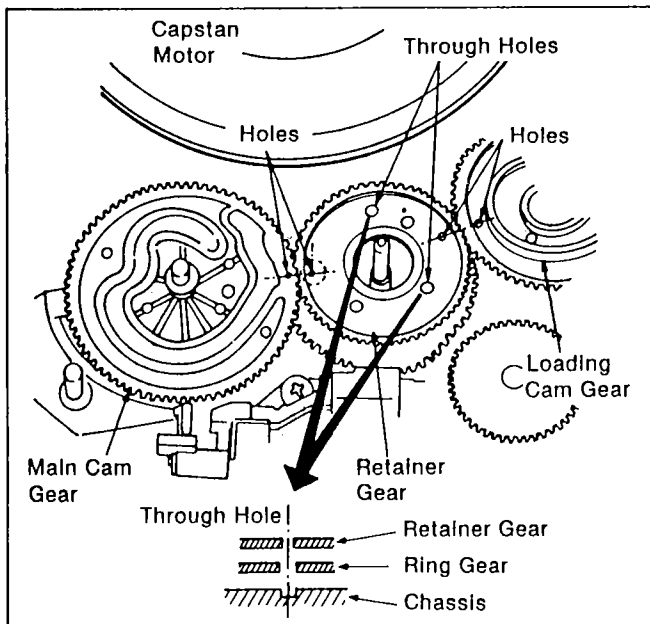

Figure M40
1. Install the Retainer Gear onto the Ring Gear so that the two holes in the Retainer Gear align with the two holes in the Main Cam Gear, at this time, small indent outside of large hole on the Main Cam Gear should align with small hole on the Retainer Gear as shown in Figure M40.
3. Install the Loading Cam Gear so that the small hole which is directly outside of the large hole on the Loading Cam Gear is aligned with the outside hole of the Retainer Gear as shown in Figure M40.